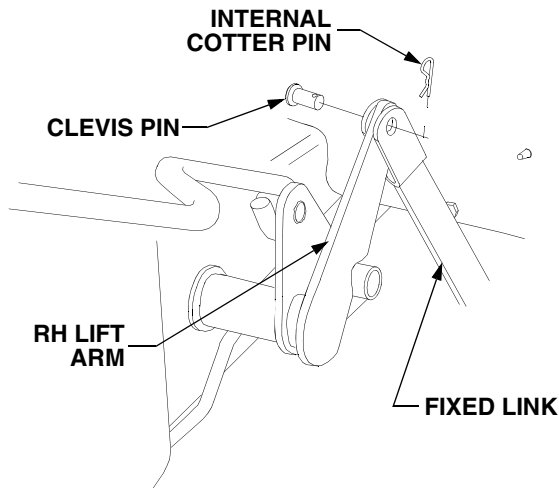

Figure 62
- Disconnect the fixed link from the RH lift arm by removing the internal cotter pin and clevis pin. Reinstall the clevis pin and internal cotter pin in the fixed link to avoid their loss. See Figure 62.
- From the right side of the tractor, grasp the fixed link and make certain it is clear of the right lift arm. Refer to Figure 62.
- Slide the fixed link of the deck over the RH lift arm. Align the holes, insert the clevis pin, and secure with the internal cotter pin (Refer to Figure 62).